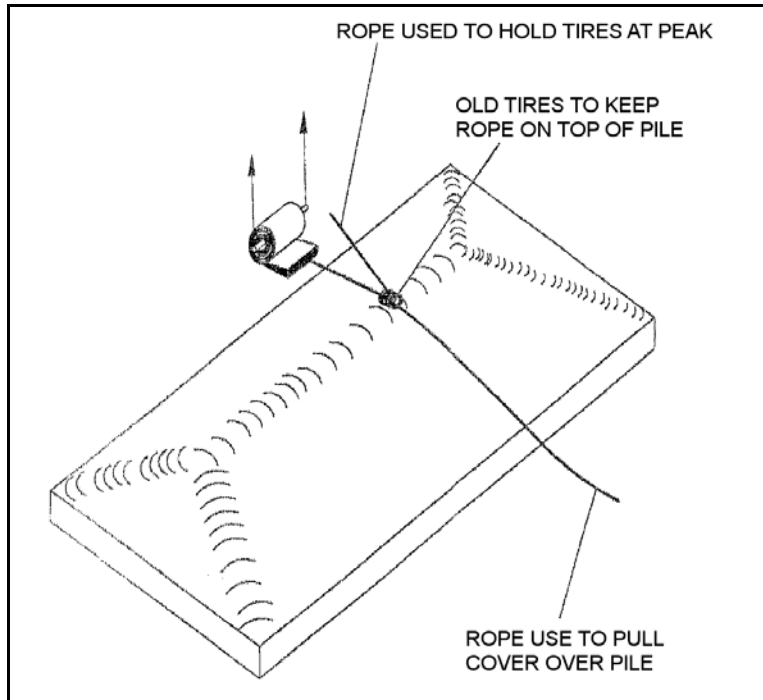

Figure 4.2
2. Attach a rope to the end layers of the roll. Place about 3 old tires at the peak of the pile. Run the rope through them over to the other side and tie to a pulling vehicle. Use another rope tied to the tires at the peak and anchor it near the roll. See Figure 4.2.